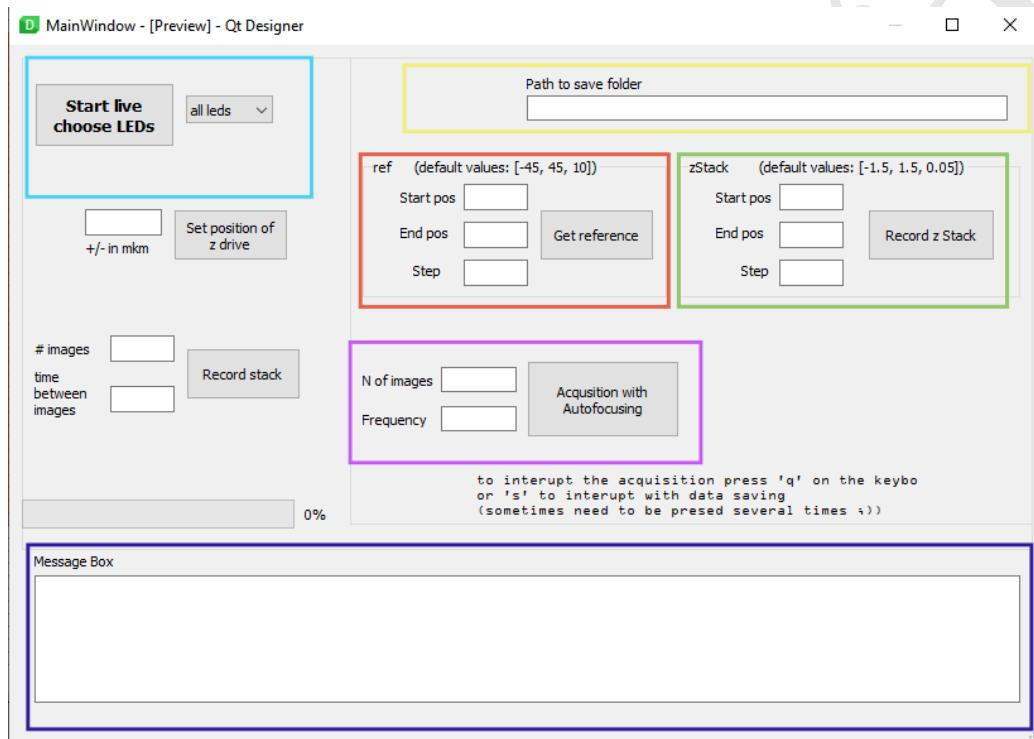

Figure 2: GUI window for oblique illumination setup
1. Insert the path to the designated save folder. (figure 2, yellow box).
2. You have the option to choose whether to use all four LEDs for illumination while viewing the live feed or to select a specific LED. It is advisable to check the illumination provided by each LED and adjust the fiber positions around the objective if necessary, just prior to acquisition (figure 2, blue box). Furthermore, the use of all four LEDs simultaneously for illumination simplifies the process during live viewing of the sample.
3. Then the reference images need to be acquired. In our case (piezo nanopositioner with range of 100 μm) we use by default the z-stack in the range of -45:45 μm with step of 10 μm (figure 2, red box). These images are further averaged.
4. Further the reference z-stack need to be recorded (figure 2, green box).
5. In order to start the acquisition with active autofocusing, enter the number of images and the autofocusing frequency (figure 2, purple box).